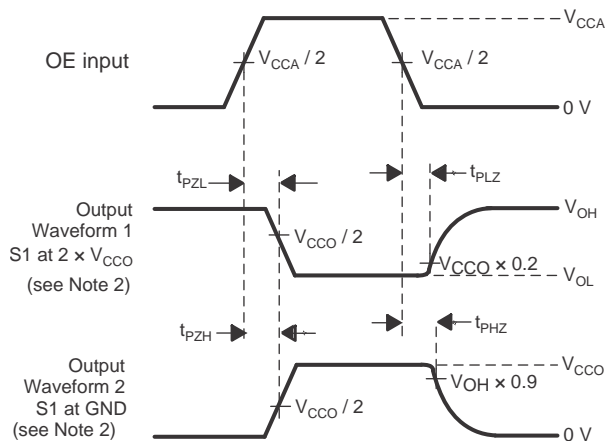

Figure 9. Enable and Disable Times
- Waveform 1 in Figure 9 is for an output with internal such that the output is high, except when OE is high (see Figure 6). Waveform 2 in Figure 9 is for an output with conditions such that the output is low, except when OE is high.